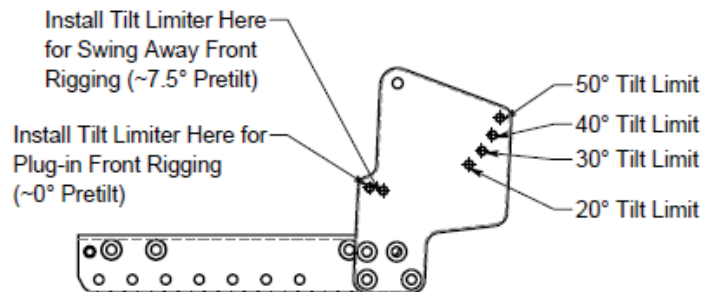
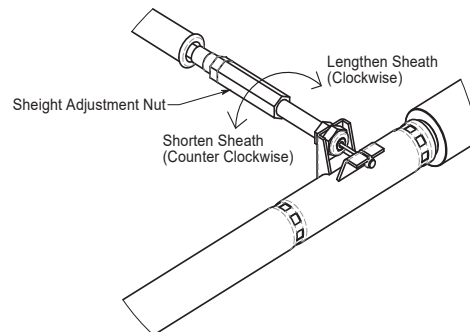

Figure 14.38: Fuze JR Tilt Limit Adjustment
Figure 14.39: Fuze JR Adjusting Cable Tension
The Fuze JR tilt-in-space feature is designed using a center of gravity tilt. Meaning the occupants center of gravity facilitates in positioning the seat angle. The seat angle is set with the use of a linear mechanical locking device also referred to as a mech-lock, see Figure 14.38 and Figure 14.39. To adjust the tilt angle, activate the tilting lever/trigger located on the push bar, depending on how the wheelchair has been configured. This activation releases the lock on the mech-lock allowing the wheelchair seat to be lowered into and out of tilt. Once the activation lever/trigger is released the seat angle should lock in its position.
4. Attach cable wire onto the mech-lock, slide steel ball through slot on lever (so ball is underside of the lever), see Figure 14.39 for reference.